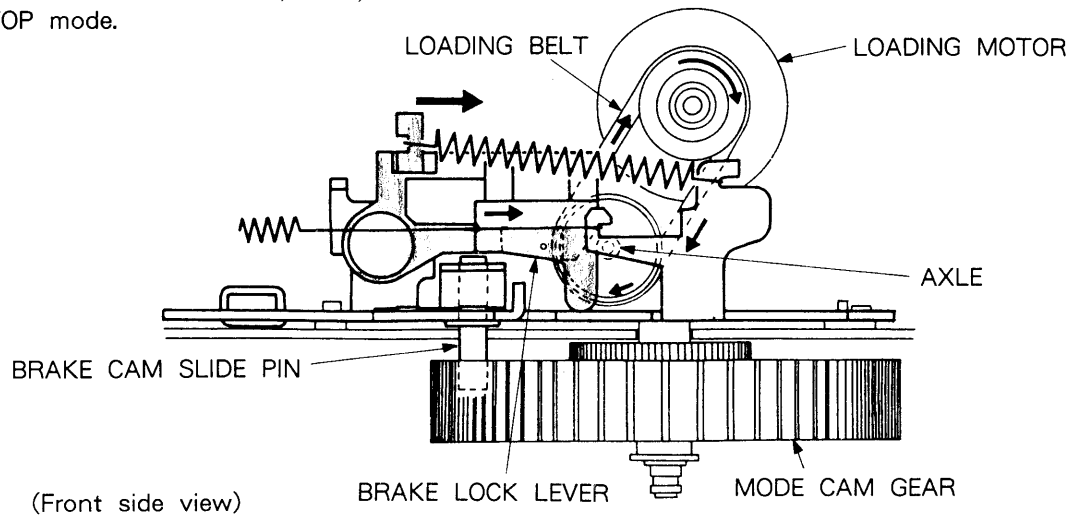

Fig. 2-9 ③ BRAKE LOCK & RELEASE MECHANISM
At the time of a shift to the STOP mode from the FF/REW (Fig. 2-9 ④), the BRAKE LOCK LEVER releases the lock on slight rotation of the axle by contact between the rotary shaft and the friction resistance so that the brake can be instantaneously